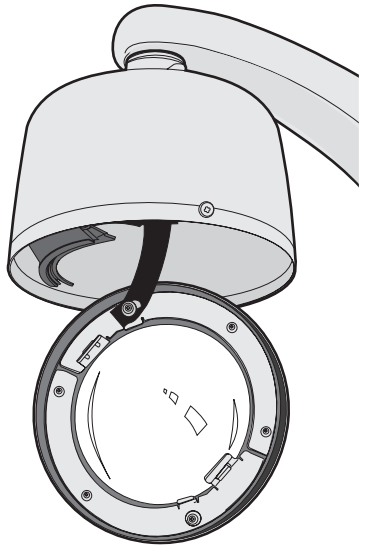

Figure 15. Attaching the Leash to the Pendant Lower Dome
1. Attach the back box leash to the lower dome (refer to Figure 15).
1. Attach the back box leash to the lower dome (refer to Figure 15 on page 21).